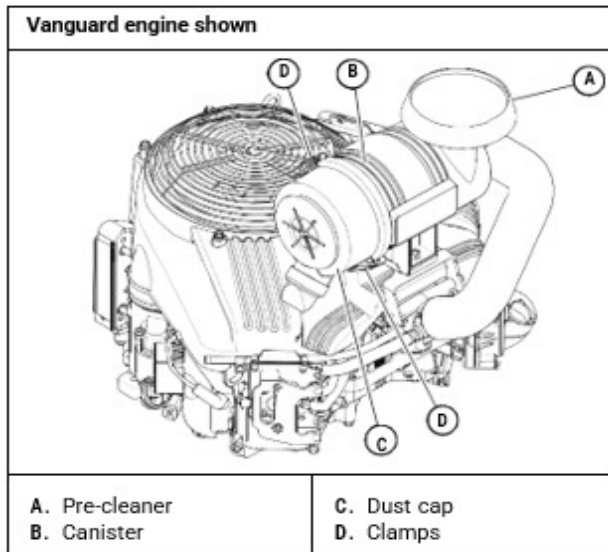
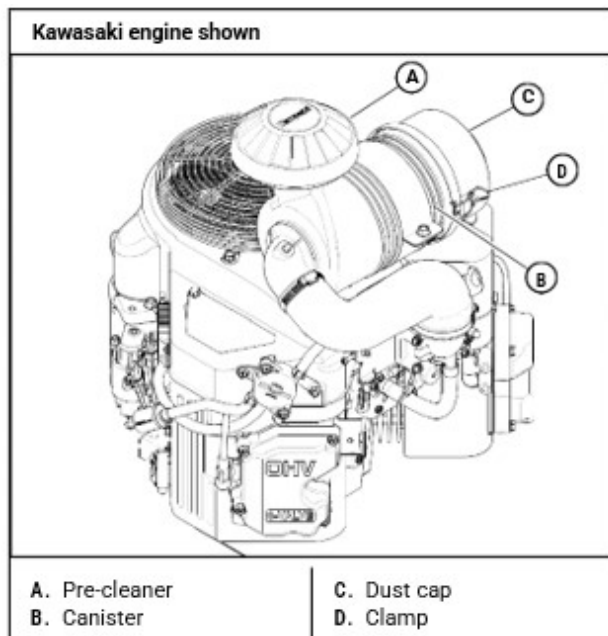
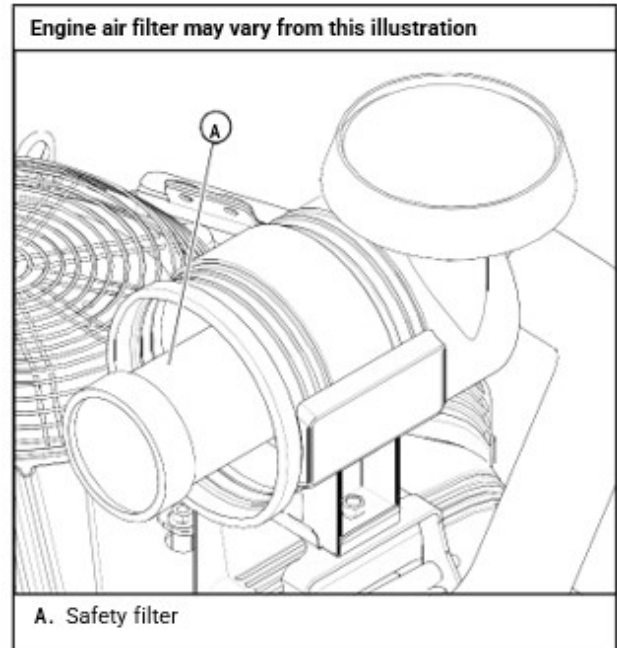

Figure 20
Figure 21
Figure 22
A specially designed dry filter is standard equipment on these P-REXs and supplies clean combustion air to the engine. [Figure 20] and [Figure 21].
These P-REXs are equipped with a safety filter. The filter element slides over the safety filter. [Figure 22].
3. Reinstall the dust cap. Make sure it seals all the way around the air cleaner canister, then tighten the clamps. [Figure 20], [Figure 21] and [Figure 22].